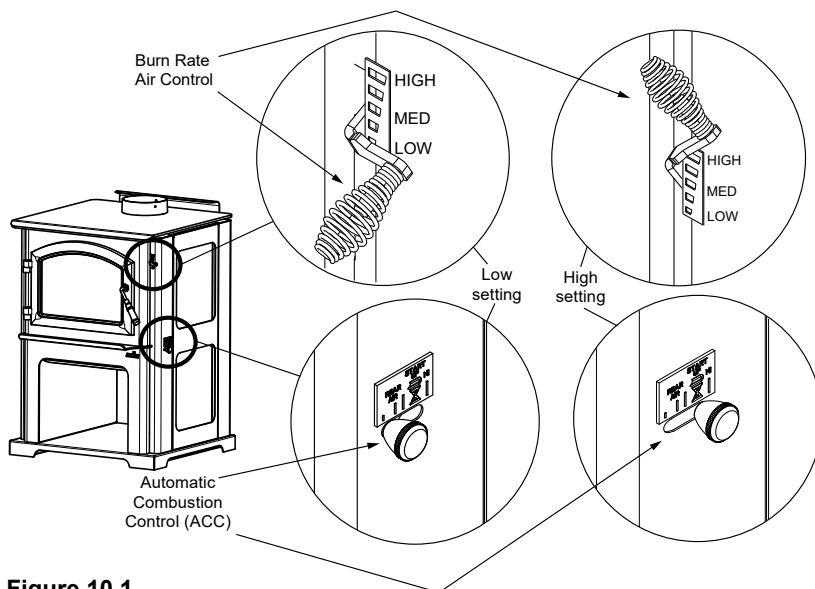

Figure 10.1
The next stage of burning, the secondary stage, is the period when the wood gives off flammable gases which burn above the fuel with bright flames. During this stage of burning it is very important that the flames be maintained and not allowed to go out. This will ensure the cleanest possible fire. If the flames tend to go out, it is set too low for your burning conditions. The air control located at the upper right hand corner is used to adjust for burn rates. This is called the Burn Rate Air Control (**Figure 10.1**).
This air supply enters at the upper front of the firebox, near the top of the glass door. This preheated air supplies the necessary fresh oxygen to mix with the unburned gases, helping to create second, third and fourth combustions. This air is regulated by the Burn Rate Air Control. When the control is moved all the way up it is on the High setting and when moved all the way down it is on the Low setting (**Figure 10.1**).
- Then activate the ACC timer system by pushing the knob all the way back toward the appliance to "HI" then pull forwards towards the front of the appliance until the knob stops (**Figure 10.1 on page 10**).